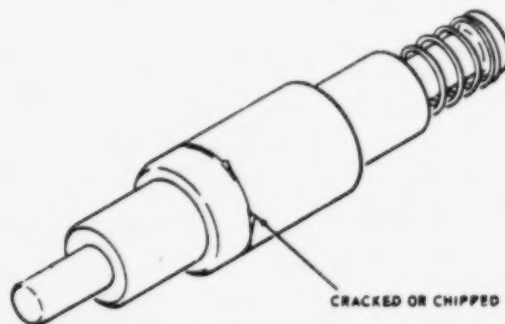

Figure 5-7. Cracked or chipped shoulder on plunger
b. Cleaning. (1) Clean all parts of hydraulic tappet assembly with solvent (item 6, table 1-8).
(2) Insure all oil is removed from inside plunger. This is necessary, as a check for correct pushrod length is made with a dry or unloaded hydraulic tappet assembly.
c. Inspection. (1) Inspect plunger for cracks and chips, especially around shoulder. (See figure 5-7.)